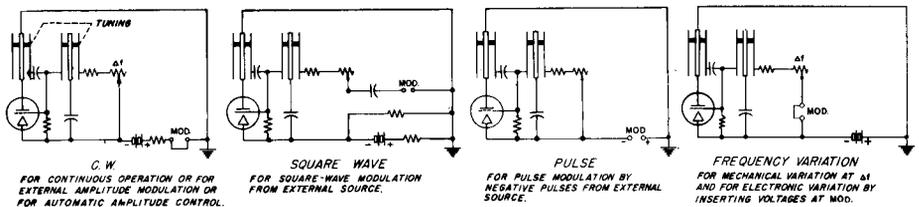
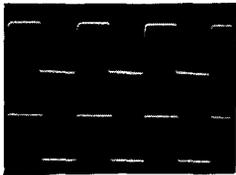
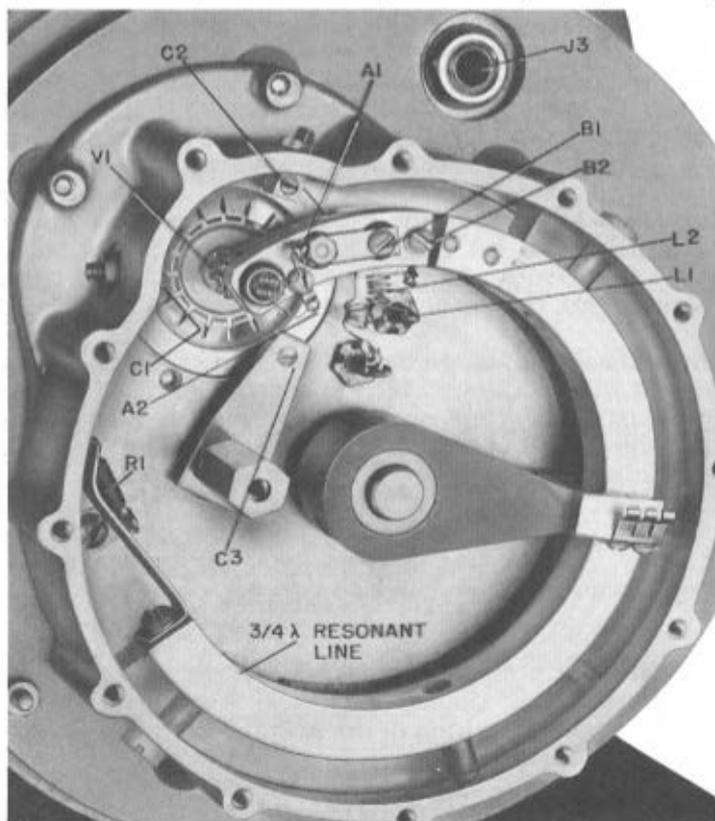

Figure 3. Elementary Wiring Diagram for Various Modulation Conditions.
Figure 4. Square-wave modulation. The rise-and-fall time is faster in r-f output than in input.
Figure 8. Right-Hand End of Oscillator, Cover Removed.
2.4 MODULATION. A three-position switch on the front panel selects the desired operation, and allows the application of external control or modulating voltages at a telephone jack. Schematic diagrams corresponding to the switch positions are shown in Figure 3.
2.6 SQUARE-WAVE MODULATION. Amplitude modulation, obtained by ac voltages superimposed on the dc plate voltage of the oscillator tube, introduces undesirable frequency modulation, which increases rapidly with carrier frequency. Square-wave modulation that turns the oscillator on and off eliminates this difficulty. Ordinarily considerable square-wave power is required to turn the oscillator off completely or to give large output if the dc plate voltage is eliminated. To obtain satisfactory operation with low power, the circuit is changed with the selector switch in the SQUARE WAVE position, as shown in Figure 3. The large resistor, R6, in the grid circuit is no longer bypassed by R2 and R3 and makes the oscillator unstable so that it can be modulated with relatively low power. Good square-wave modulation from about 100 to 5000 cps can be obtained, with square-wave input as shown in Figure 4. Figure 5 shows the output produced if sine waves are applied with the selector switch in the SQUARE WAVE position. In square-wave modulation, plate current flows only half the time, and the voltage drop in the large plate circuit series resistor is reduced. To prevent a rise of voltage at the oscillator tube, a shunt resistor (R9) is added when the selector switch is in the SQUARE WAVE position.
2.8 FREQUENCY INCREMENTS. Small frequency variations, of the order of 20 kc to 100 kc, can be obtained as the resistance in the grid circuit is varied mechanically. The 1000-ohm resistor (Δf) at the top of the main casting is provided for this purpose. In series with this variable resistor is a fixed resistor of 2000 ohms and a telephone jack that is normally closed. (See Figure 3.) An increase in the grid circuit resistance beyond 3000 ohms tends to make the oscillator unstable, but bias voltages with low internal impedance can be introduced at the telephone jack to change the frequency by about 0.1 percent. Since the entire grid circuit is below ground potential, the grounded modulator jack on the front panel cannot be used for this purpose, and a second jack has been provided. (See J3, Figure 8.) The circuit can be used for electronic frequency control in a closed-loop system as well as for frequency modulation and for sweeping. Sweeping with the saw-tooth output of an oscilloscope can be used for panoramic presentation.
4.1 PLATE CIRCUIT MODULATION. For unmodulated output, automatic output control, or amplitude modulation, place the MOD. switch in the CW position. As shown in Figure 3, the plate circuit can be opened by means of a phone plug at the MOD. jack on the front panel. This permits the insertion of control voltage or a variable control resistance. One side of the jack is ground. A voltage that is positive with respect to ground reduces the output.
5.2.3 REMOVAL OF OSCILLATOR TUBE. (See Figure 8.) The Type 5675 Oscillator Tube used in the Type 1218-A Unit Oscillator has no socket. The two heater leads are connected to the heater terminals (A_1 , A_2) by small, bare wires, which are soldered to the heater terminals and wound around the heater leads. To remove the tube, unsolder the leads from the terminals and unwind them from the heater leads. Lift out the short extension of the cathode line at the tube end after removing two small screws (B_1 , B_2). Loosen screws (C_1 , C_2 , and C_3) and remove the pressure ring that holds the two tube clamp rings. When installing a tube, insert the first tube clamp ring with the fingers bent up, plug the tube into the end of the plate line and insert the second tube clamp ring with the fingers bent down. After installing the pressure ring and the end section of the cathode line, solder new wires to terminals (A_1 , A_2) and wrap carefully around the cathode leads of the tube. (No. 30 bare copper wires are supplied for this purpose.)